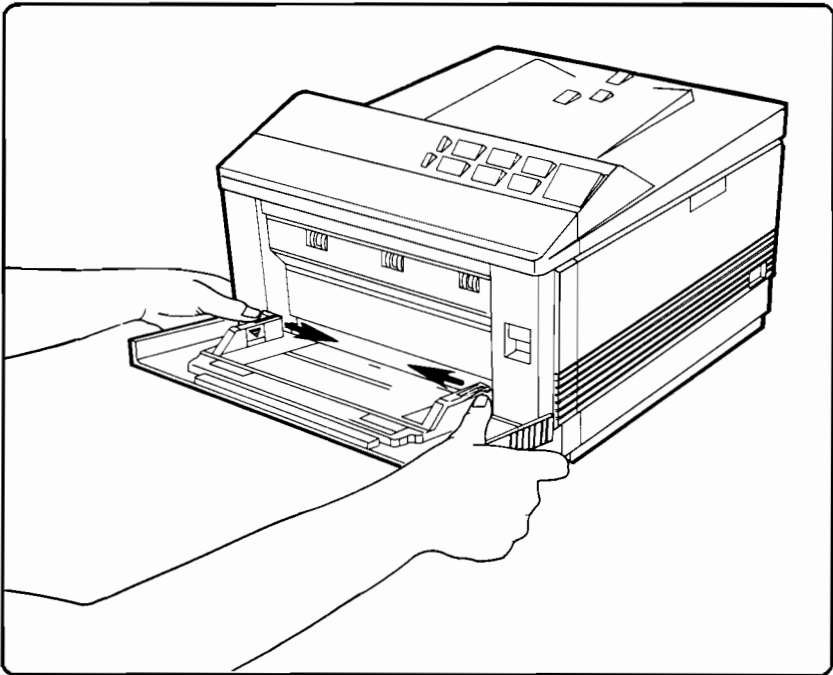

Figure 6-52. MP Tray Removal
4. Press inward on the hinge catches on both ends of the MP Tray to unlatch it. Swing the tray down to remove it from the Paper Path Door (see Figure 6-52).
1. Remove the MP tray (see Figure 6-52).